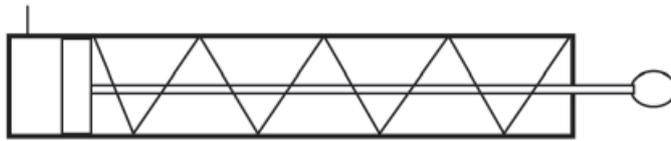

Fig. 11
- (b) (i) The work done by the single acting cylinder shown in Fig. 11 is 1130.4 J during the outstroke. The cylinder has a stroke length of 100 mm and is supplied with an air pressure of 1 N/mm². Calculate the diameter of the piston. Assume $\pi = 3.14$. [3 marks]